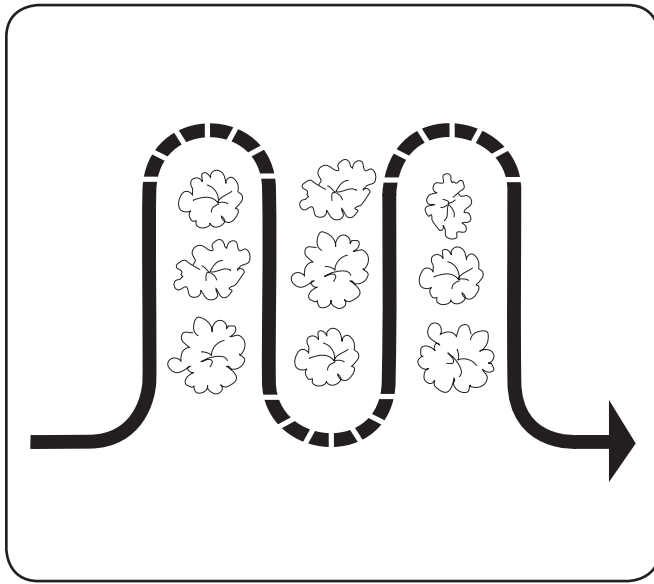

Figure 5-14
- With planning, you can allow enough room between rows to cultivate. Leave room for the hood width, plus enough extra room for future plant growth. See Figure 5-14.